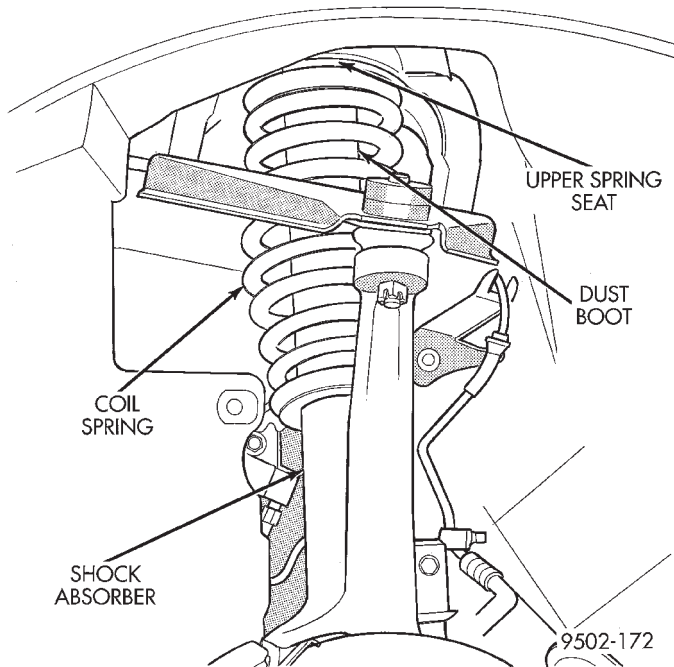

Fig. 2 On Vehicle Shock Absorber Assembly Inspection
- (1) Inspect for damaged or broken coil springs (Fig. 2).
- (2) Inspect for torn or damaged shock absorber dust boots (Fig. 2).
- (3) Lift the dust boot and inspect the shock absorber for evidence of fluid running from the upper end of fluid reservoir. (Actual leakage will be a stream of fluid running down the side and dripping off lower end of unit). A slight amount of seepage between the shock absorber rod and the seal is not unusual and does not affect performance of the shock absorber. Also inspect jounce bumpers for signs of damage or deterioration (Fig. 2).